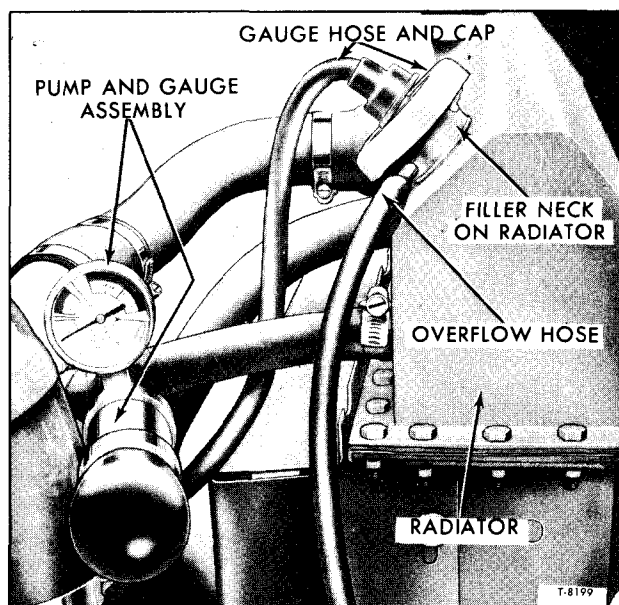

Figure 1—Typical Use of Cooling System Tester
Several types of cooling system pressure checking devices are available locally and manufacturer's instructions should be followed for proper use. A typical tester is illustrated in figure 1 and usual procedure is given below for making test of pressure cap and cooling system.
1. Remove filler cap or tester from filler neck so there will be no pressure in system, then attach system tester at filler neck (fig. 1).